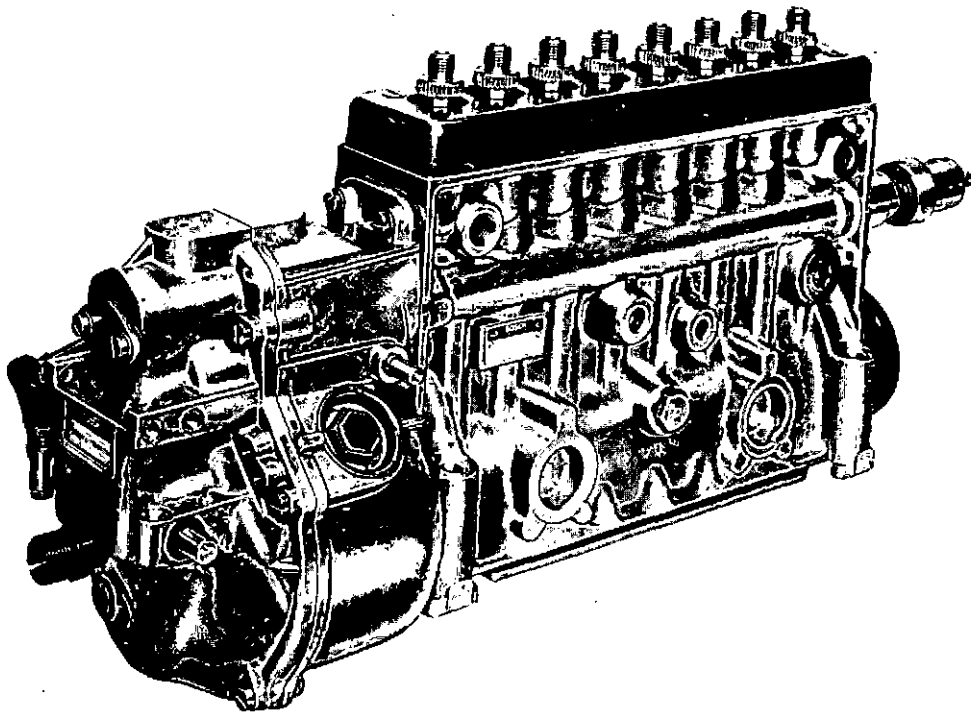

Fig. 2 Bosch fuel injection pump
9. Prime the fuel injection pump (fig.2) with clean engine lubricating oil. (See Chapter 3, Section 4 for details).